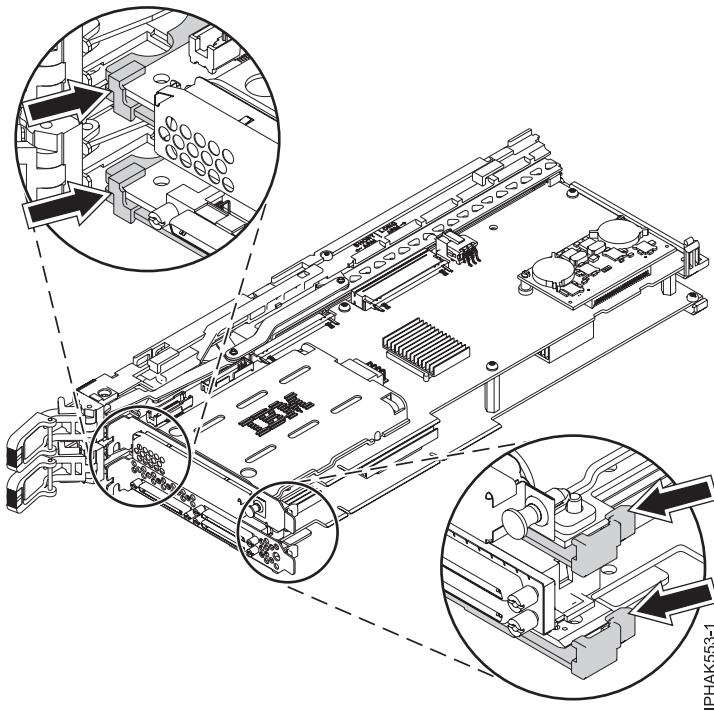

Figure 52. Placing the double-wide adapter in the cassette assembly
- a. Insert the top of the double-wide adapter tail stock into the notches in the cassette assembly, and then secure the bottom of the double-wide adapter tail stock to the cassette assembly. See Figure 52.